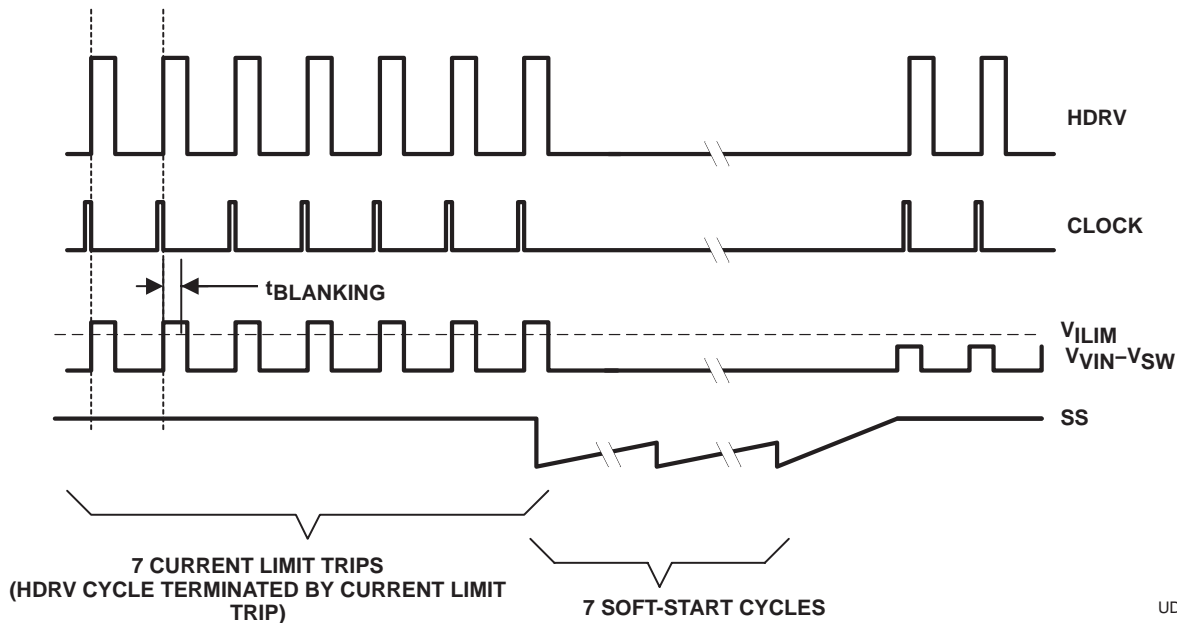

Figure 9. Typical Current Limit Protection Waveforms
Voltage-mode buck-type converters are typically compensated using Type III networks. Since the TPS4005x uses voltage feedforward control, the gain of the PWM modulator with voltage feedforward circuit must be included. The modulator gain is described in Figure 9, with V_{IN} being the minimum input voltage required to cause the ramp excursion to cover the entire switching period as described in equation (19).